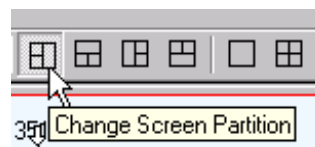

Figure 6. Normal screen arrangement with the `i stick` or `i histogram` style spectrum in the upper left.
4. Click on "Operate" if the system is in "Standby" mode. Click on the window arrangement icon shown in Figure 6, if not already chosen. The spectrum on the left is a "histogram" style spectrum, similar to the display on the GC/MS. The spectrum on the right is a "profile" spectrum that shows the full resolution of the mass spectrometer.